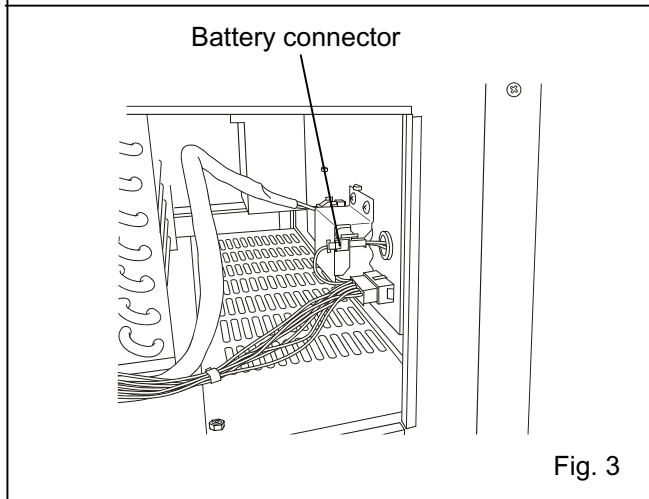

Fig. 3
3. Disconnect the battery connector. (Fig. 3)